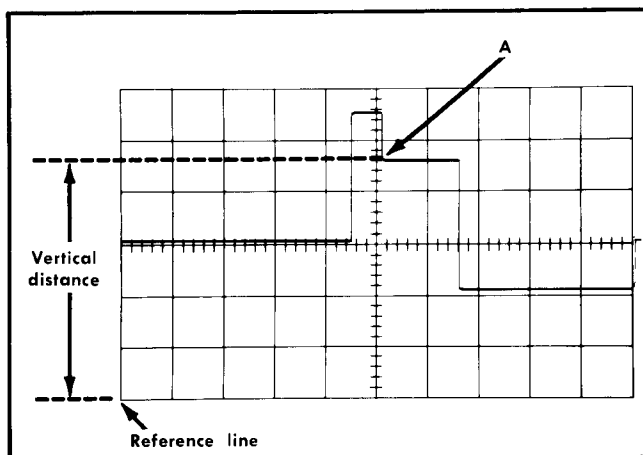

Fig. 2-20. Measuring instantaneous DC voltage with respect to a reference voltage.
9. Measure the distance in divisions between the reference line and the point on the waveform at which the DC level is to be measured. For example, in Fig. 2-20 the measurement is made between the reference line and point A.
Example. Assume that the vertical distance measured is 4.6 divisions (see Fig. 2-20), the waveform is above the reference line, using a 10× attenuator probe and a VOLTS/DIV switch setting of 2.